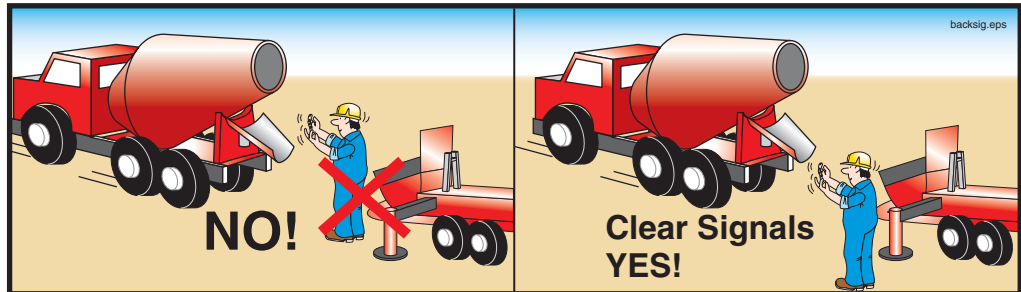

Figure 42
8.6 **⚠ WARNING** **Crushing hazard! Never, ever** position yourself between a ready mix truck and the pump! Stand off to the side, so the ready mix driver can see you at all times (Figure 42).
8.7 **⚠ WARNING** When backing in ready mix trucks, use clear and concise hand signals (Figure 42).